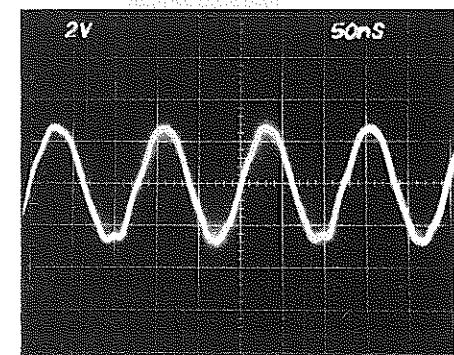

Fig. 4-12
- 1) Clock Generator Performance Checks (See Fig. 4-12)